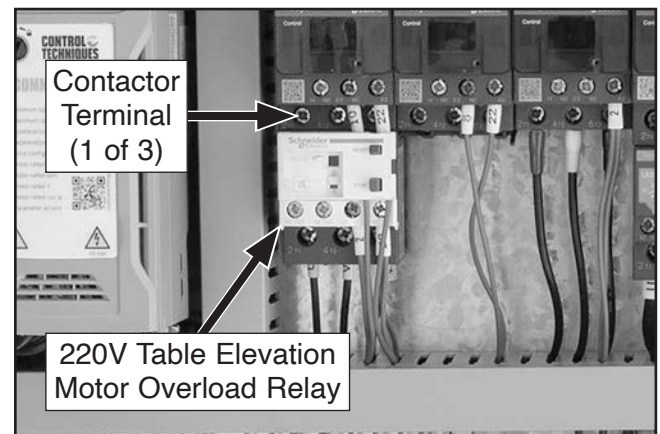

Figure 10. Location of table elevation motor overload relay (220V).
4. Install 440V inverter with (4) Phillips head screws removed in **Step 3**, then connect wires to inverter terminals according to wiring section beginning on **Page 71**.
5. Disconnect wires from 220V table elevation motor overload relay, then loosen bottom three contactor terminals and remove overload relay (see **Figure 10**).